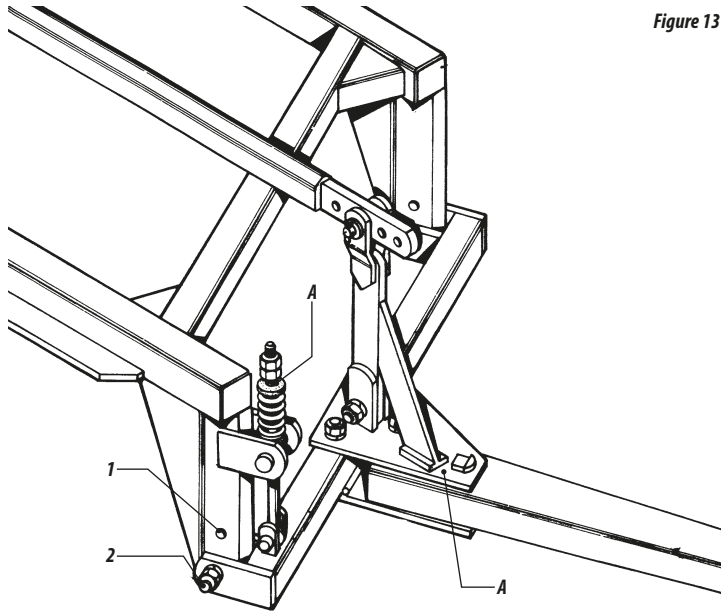

Figure 13
- 05 - In certain soil conditions, less penetration on left front and/or right rear gangs may occur. The following adjustments can be made to equalize disk blade penetration. The harrow must be positioned so disk will trail directly behind tractor then insert the sheets on the left or right side as illustrated on the Figure 13.